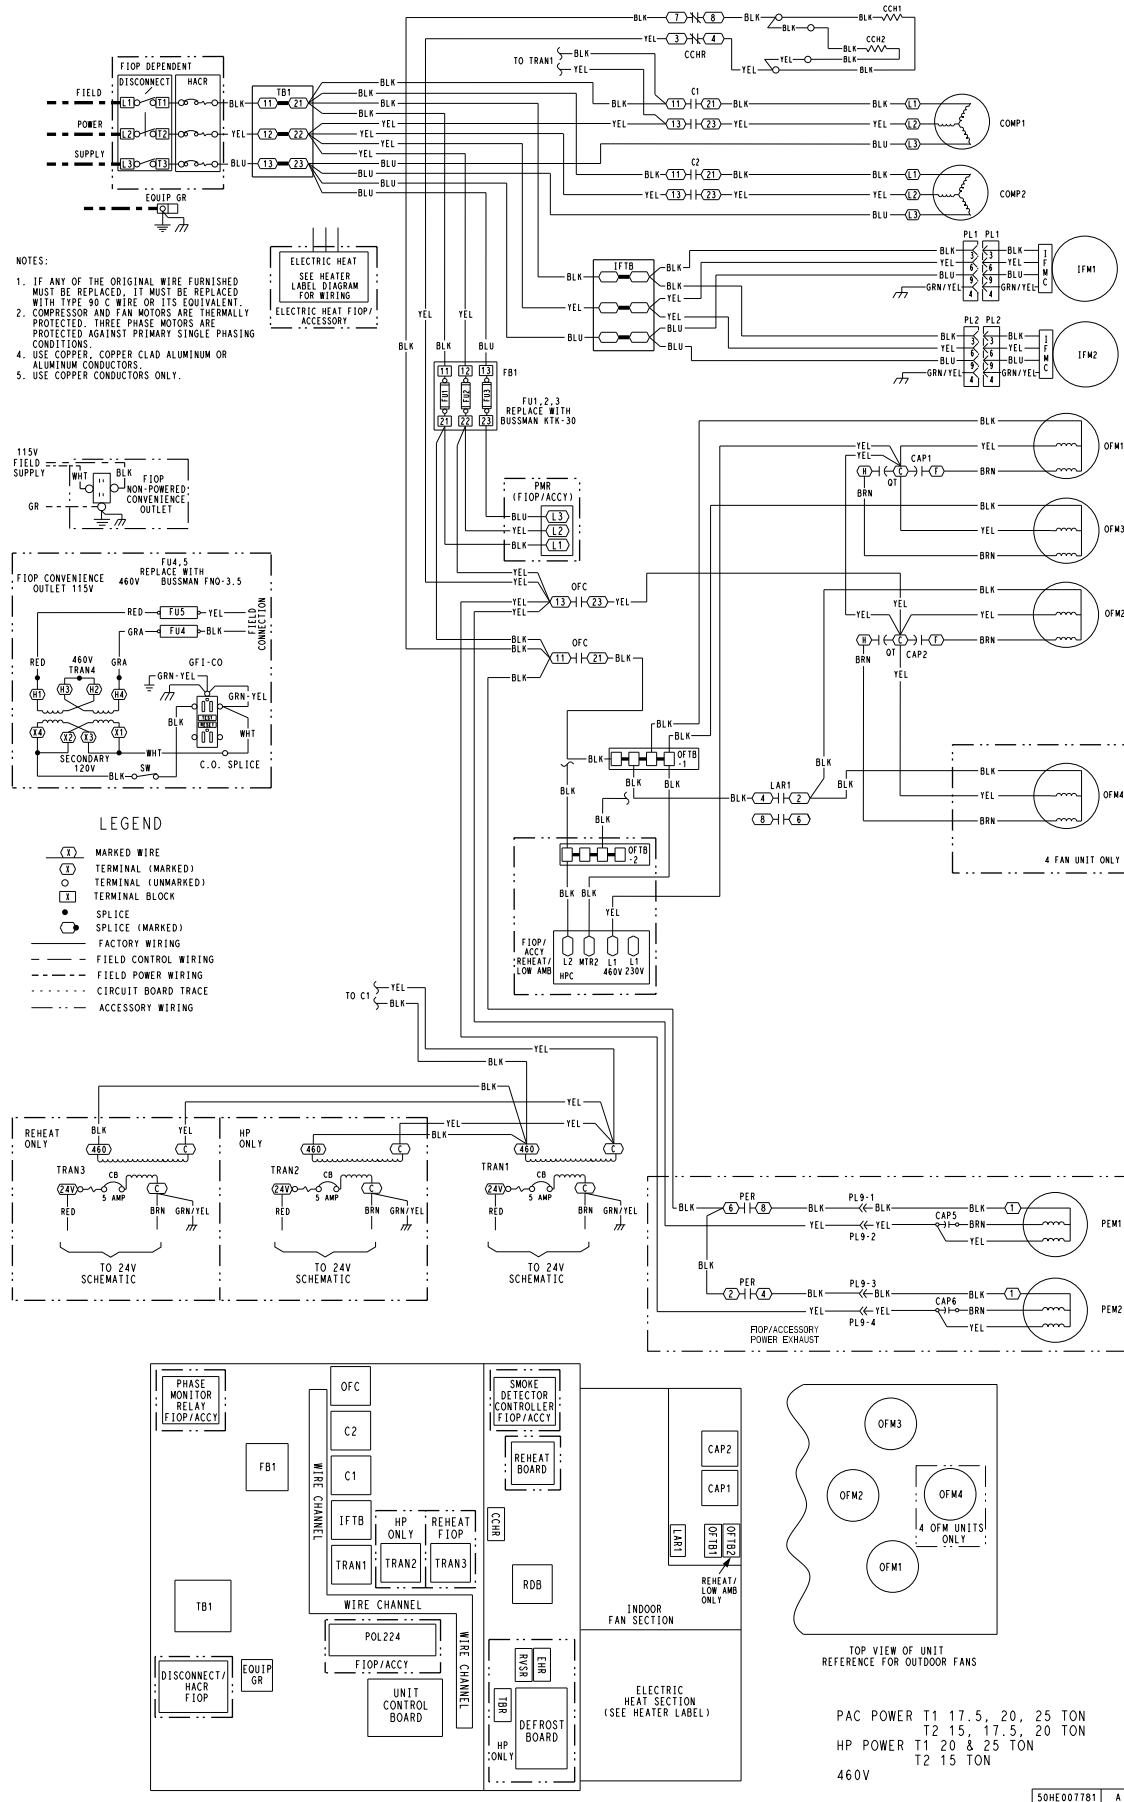

**Fig. 60 — Humidistat Connections to MBB
6. For 3-Stage SystemVu controller units connect one of the leads from the 2-conductor cable to the TB3 terminal 3 on the MBB (Main Base Board). Connect the other lead to the TB3 terminal 4 on the MBB. See Fig. 60.